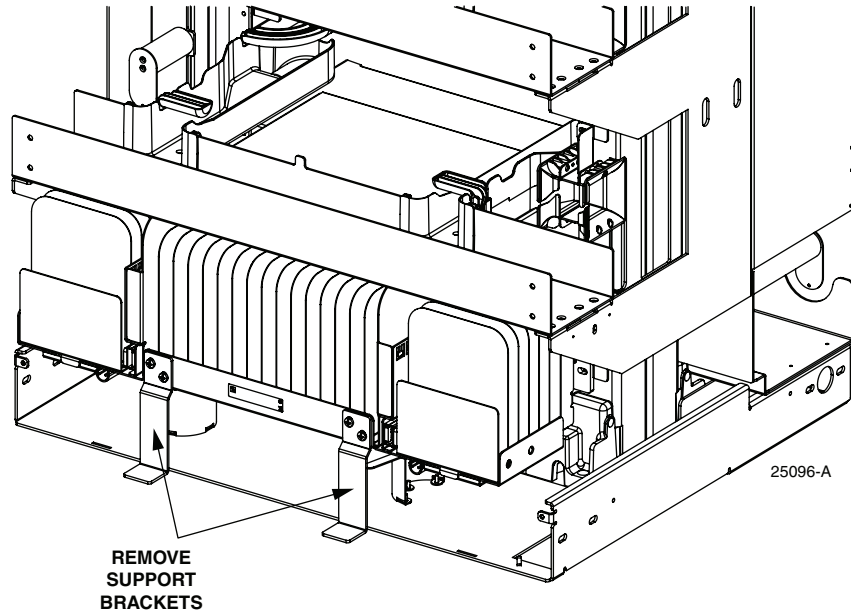

Figure 9. Removing Support Brackets
- Slide the splice chassis inward and remove the two support brackets as indicated in Figure 9.